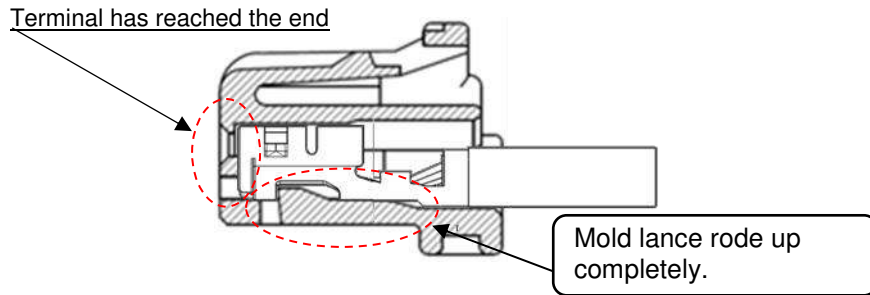

Fig.6-4 The case of correct insertion
- ③ After inserting the terminal, please confirm if terminals are not pulled out from receptacle housing by pulling wires lightly (with about 100g force). Confirmation by excessive tension might break connector.
- ④ After inserting all terminals, please confirm the position of terminal lance part by looking through window of receptacle mold lance. If they are inserted correctly, terminal lance is at the position where terminal lance rode up mold lance properly and you can confirm clearance by shaking them axially lightly. (Fig.6-4/6-5/6-6)